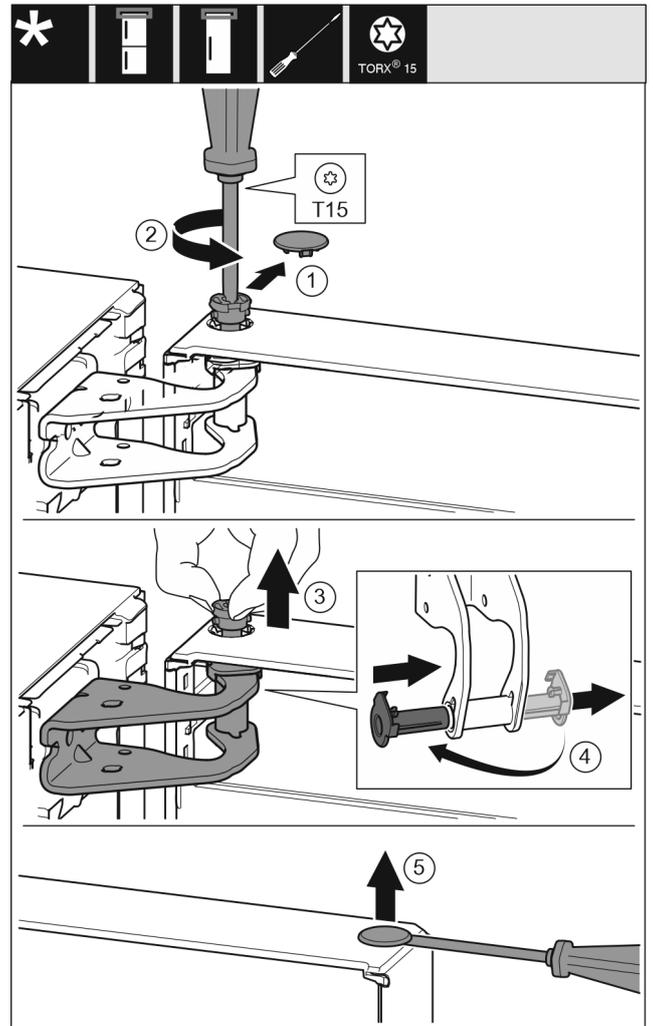

Fig. 8
- ▶ Carefully remove the protective cover. *Fig. 8 (1)*
- ▶ Undo the bolt a little with a T15 screwdriver. *Fig. 8 (2)*
- ▶ Hold the door and remove the bolts with your fingers. *Fig. 8 (3)*
- ▶ Pull the bearing bush out of the guide. Insert from the other side and latch into place. *Fig. 8 (4)*
- ▶ Carefully lift the plugs out of the door bearing bush with a slotted screwdriver and pull them out. *Fig. 8 (5)*